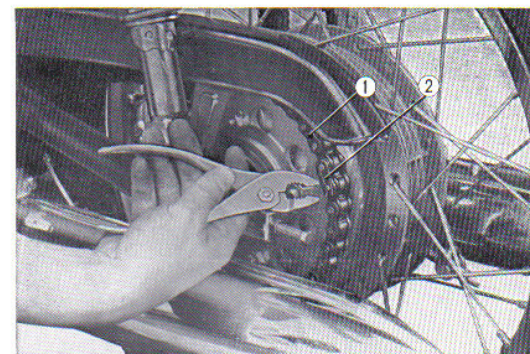

Fig. 4.90 Removing the drive chain clip
1. Remove the drive chain joint, and disconnect the chain. (Fig. 4.90)